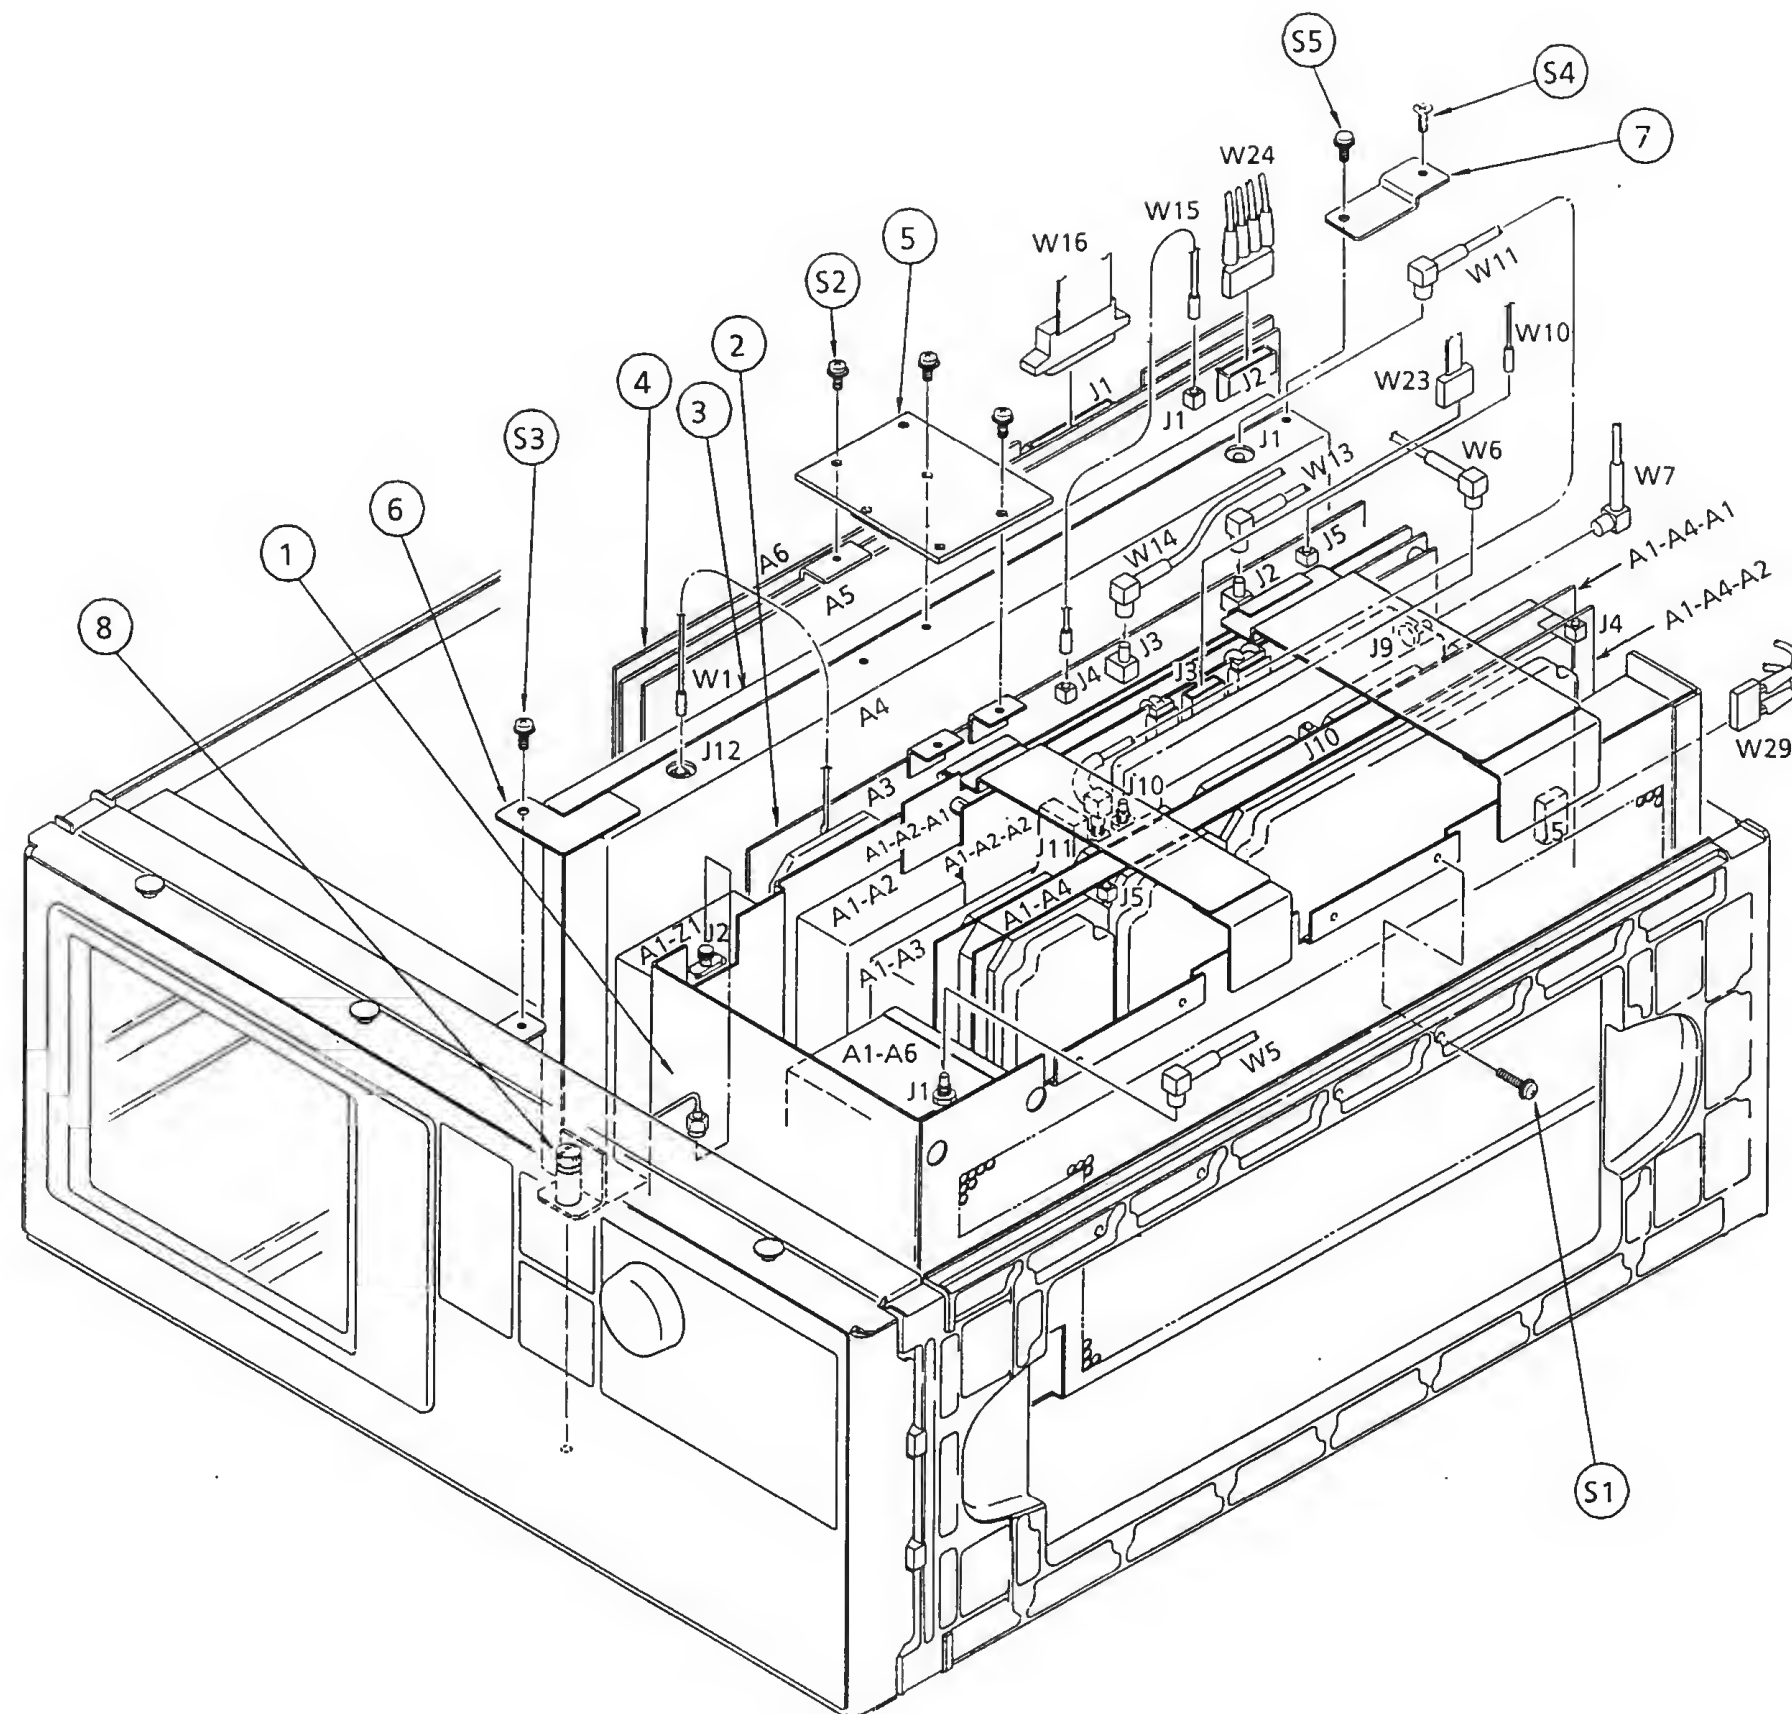

Fig. 5-3 Main Unit Removal
#### 5.3.1 Removing RF block/RF chassis ① (Fig. 5-3)
#### 5.3.2 Removing A3: IF LOG/DET unit ② (Fig. 5-3)
### 5.3.3 Removing A4: IF BPF unit ③ (Fig. 5-3)
### 5.3.4 Removing A5/A6: SCAN unit ④ (Fig. 5-3)